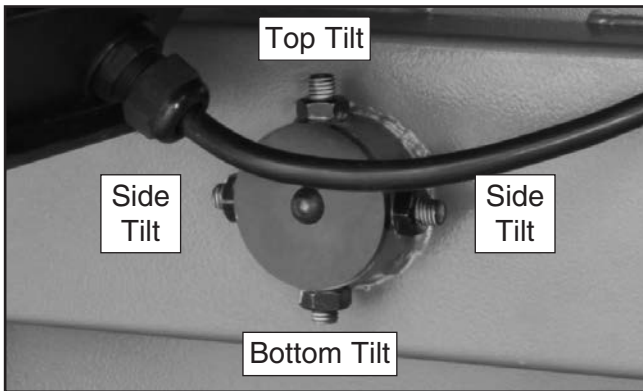

Figure 87. Lower wheel adjustment control.
7. If the wheels will go parallel but not coplanar, then move the lower wheel at the adjustment hub (see **Figure 87**) as necessary.